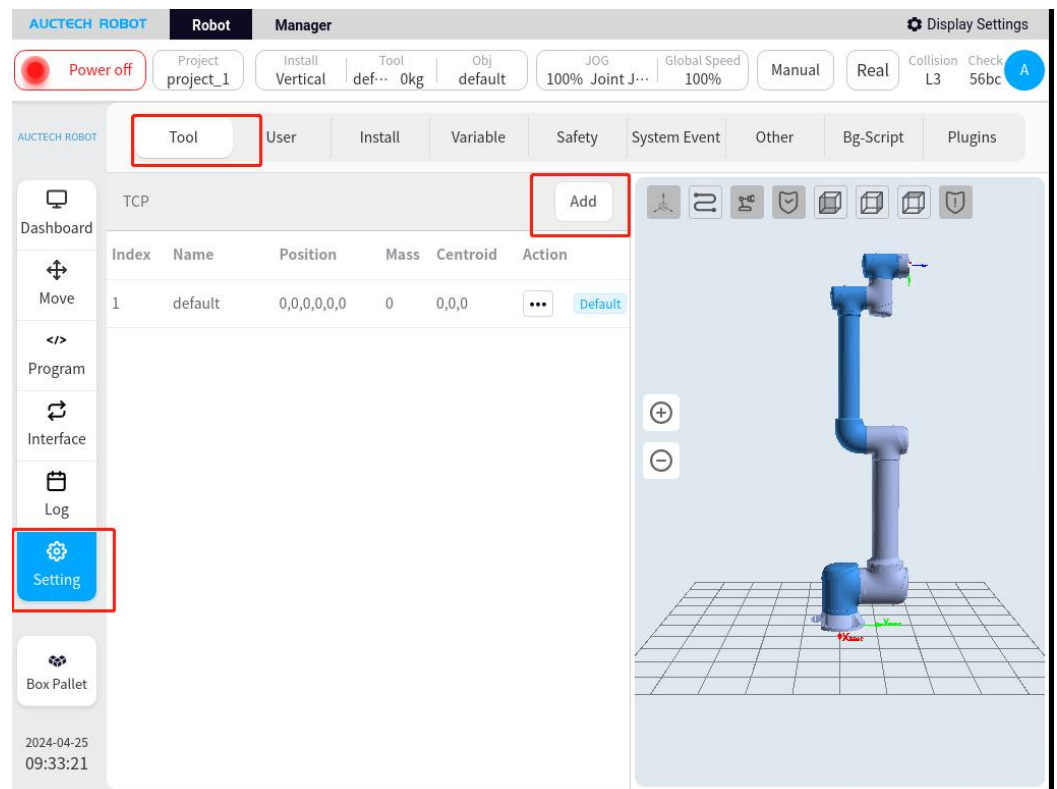

Figure 9
1、“Tool Settings” interface, as shown in Figure 9.